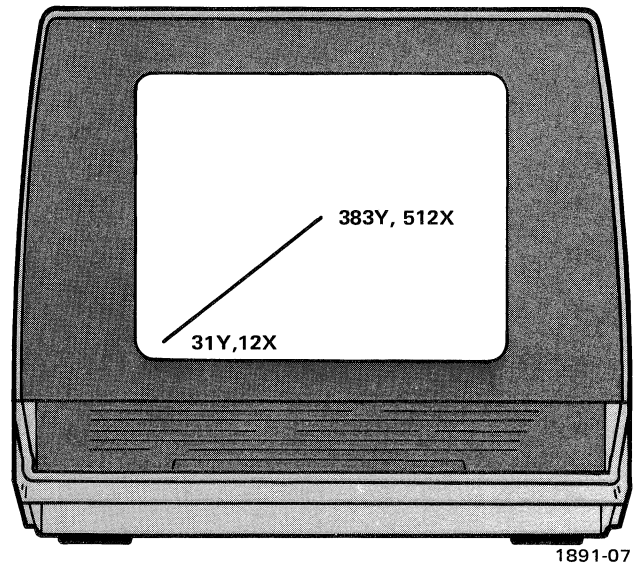

Fig. 2-4. Displayed Vector.
4. Enter SPACE RUBOUT SPACE L. This sends the address for the 31Y and 12X coordinates. The terminal should display a vector (line) from the center of the screen to the lower left-hand corner as shown in Fig. 2-4. You will also note that the vector is not drawn until the last character of the address (L) is entered.